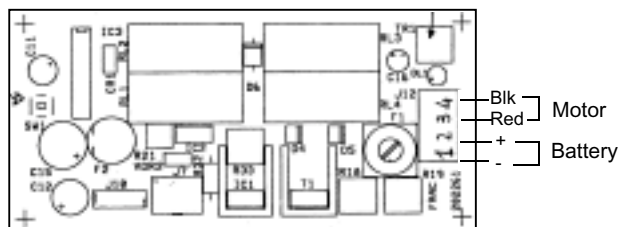

Figure 11. The battery back up control panel
12. Connect the battery and motor wires as shown in figure 11.